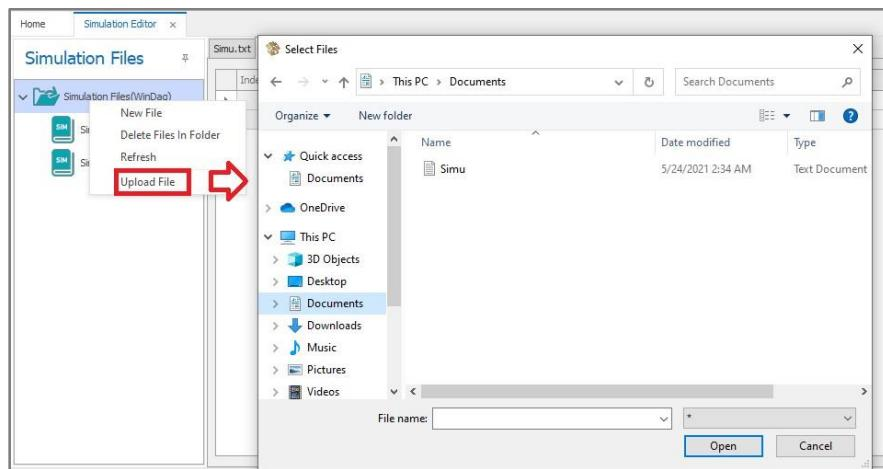

Figure 8-8 Upload the Selected Simulation File
- 4) Assuming that the duration in the document is 500s, we can set the Step Limit of the Step as 501s. Figure 8-8 below shows how to set the Step and Log Limits.